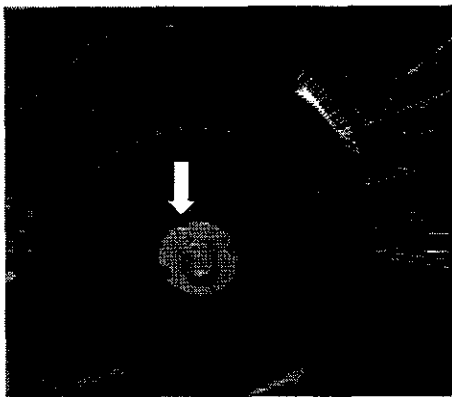

figure 19
6. Remove the lock hub by removing all set screws and then inserting the screw indicated in figure 19.